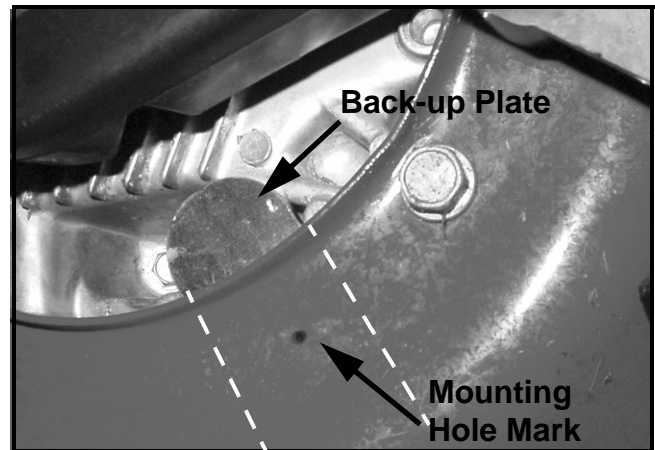

FIGURE 6
17. Remove the 731-05903. Place a back-up plate of 1/8" or 3/16" thick steel between the engine sump and the deck at one of the mounting hole location marks. See Figure 6.